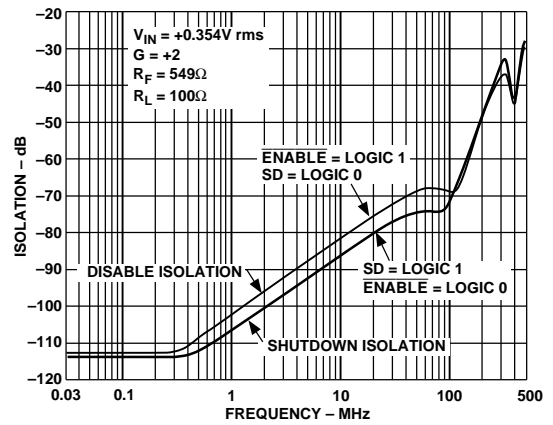

Figure 14. AD8174R Disable and Shutdown Isolation vs. Frequency
7AD8174 only. Shutdown (SD) pin is grounded. Mux is disabled, (i.e.,  $\overline{\text{ENABLE}} = \text{Logic 1}$ ) and all inputs are driven simultaneously with  $V_{IN} = 0.354\text{ V rms}$ . Output is monitored at  $f = 5\text{ MHz}$  and  $30\text{ MHz}$ ;  $R_L = 100\ \Omega$ . In this mode, the output impedance of the disabled mux is very high (typ 10 MΩ), and the signal couples across the package; the load impedance and the feedback network determine the crosstalk. For instance, in a closed-loop gain of +1,  $r_{\text{OUT}} \approx 10\text{ M}\Omega$ , in a gain of +2 ( $R_F = R_G = 549\ \Omega$ ),  $r_{\text{OUT}} = 1.1\text{ k}\Omega$  (see Figure 14).
8AD8174 only.  $\overline{\text{ENABLE}}$  pin is grounded. Mux is shutdown (i.e., SD = Logic 1), and all inputs are driven simultaneously with  $V_{IN} = 0.354\text{ V rms}$ . Output is monitored at  $f = 5\text{ MHz}$  and  $30\text{ MHz}$ ;  $R_L = 100\ \Omega$ . (see Figure 14). The mux output impedance in shutdown mode is the same as the disabled mux output impedance.